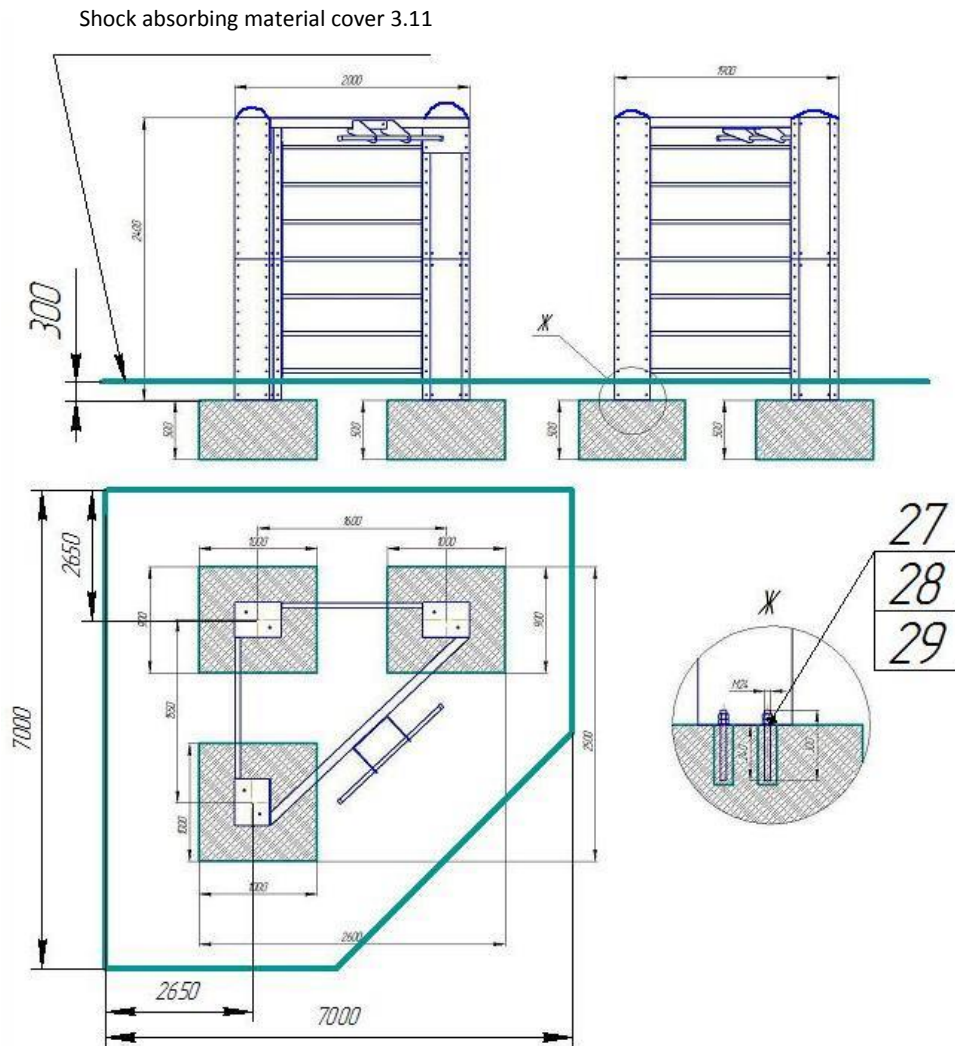
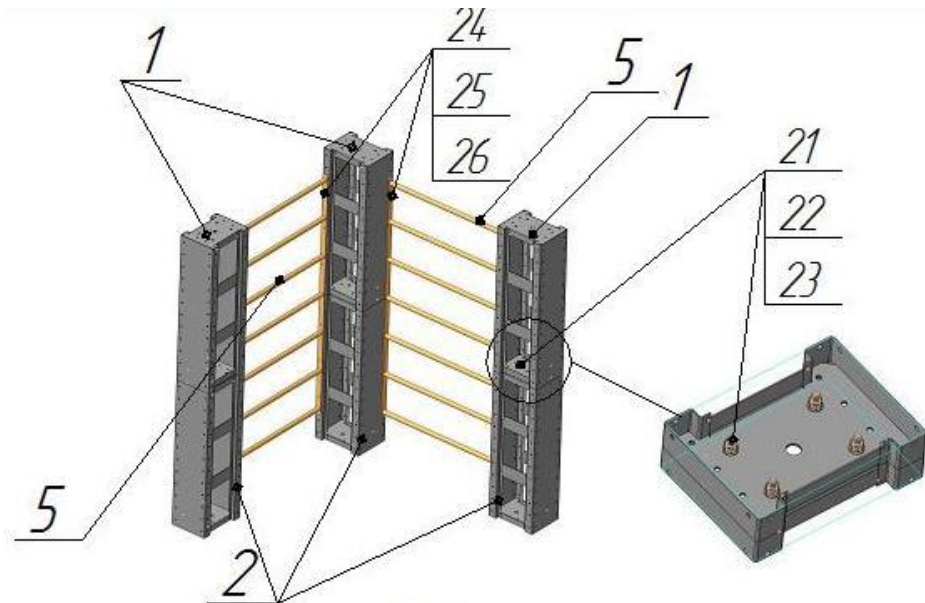
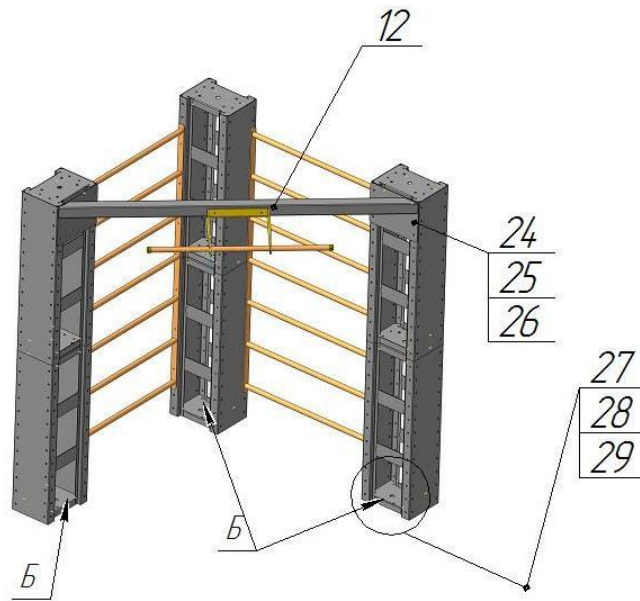

Fig. 1
Fig. 2
Fig. 3
- 3.2 Install on prepared concretesurfacing according to the scheme Fig.1 with the use of anchored reinforcements № 27, 28, 29. Concrete grade used in the manufacture of concrete surfacing should be at least M250.
3.5 Assemble the side panels, see fig.2 consisting of assembly units № 1, 2, 5 (see table 2) and metal items № 21, 22, 23, № 24, 25, 26. Do not tighten the threaded connections. Install vertically on prepared concrete pads according to fig.1
3.6 Install items № 12 with the help of metal hardware № 24, 25, 26 (see Fig.3) and perform the final tightening of all threaded connections 25 ... 30N*m.
- 3.7 In places "Б" with the help of anchored reinforcement №27 and metal hardware № 28, 29 see Fig.3 and Fig.1 secure the construction to the prepared concrete surfacing.
3.11 Put shock absorbing material on the surface under the assembled complex (not included in delivery). Protrusion of the items position 2 on outer sides must be at least 2500 mm. Total protection cover on the plan and safety zones are 7000 x 7000 mm (see fig.6 and fig.1). Other types of cover material and foundation shall conform to EN 16630:2015.